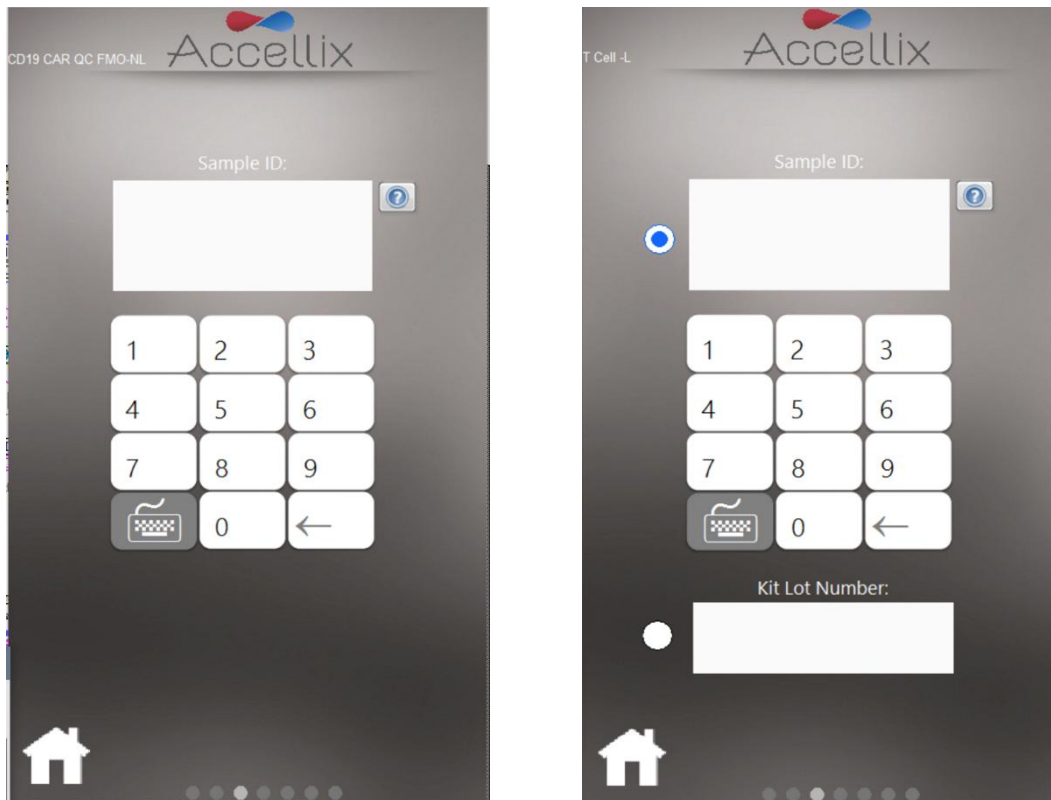

Figure 38: Enter Sample ID screen (with and without Kit Lot Number)
6. On the **Enter Sample ID screen** (Figure 38), enter the Sample ID using the on-screen keypad, an external keyboard or barcode scanner. The Sample ID will then be displayed on all subsequent screens of the assay run.
Note: In an optional configuration of the software, the user is also required to enter a Kit Lot Number. (See the image on the right-hand side of Figure 38).